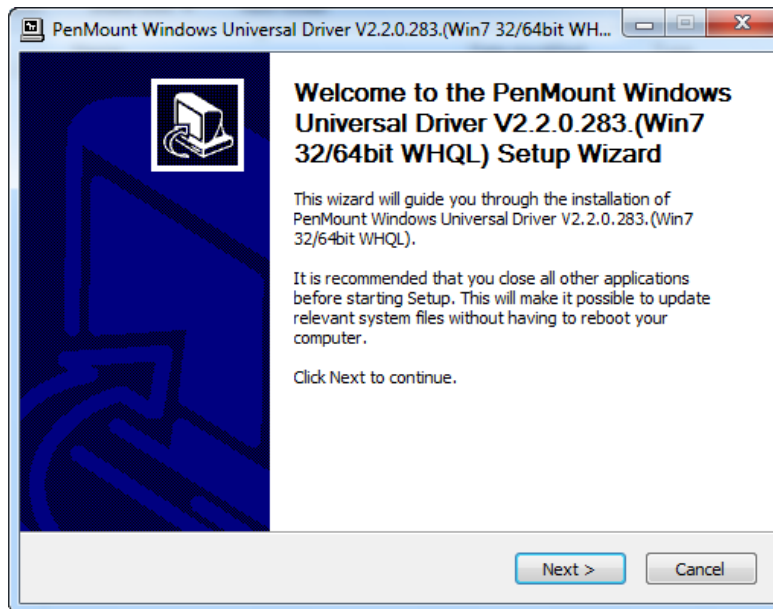

Figure 5-12: Touch Screen Driver Welcome Screen
- Step 4:** A **Welcome Screen** appears (**Figure 5-12**).